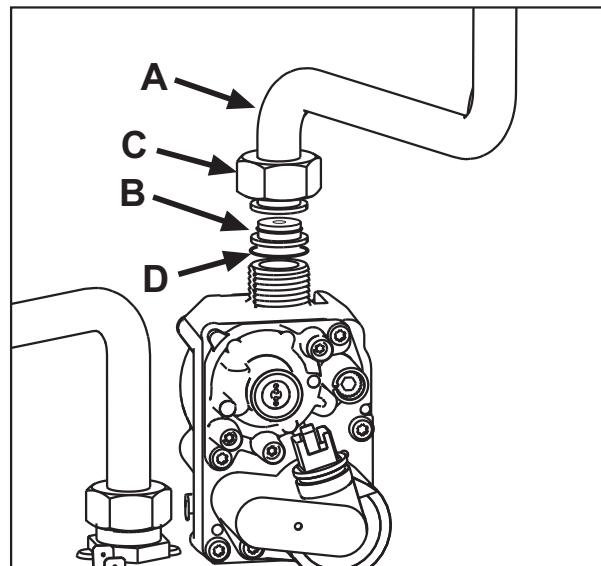

fig. 22
3. Unscrew ring **C** and remove gas pipe **A** from the gas valve (see fig. 22).
4. Replace nozzle **B**, inserted in the gas pipe, with that contained in the conversion kit, interposing seal **D** (see fig. 22).